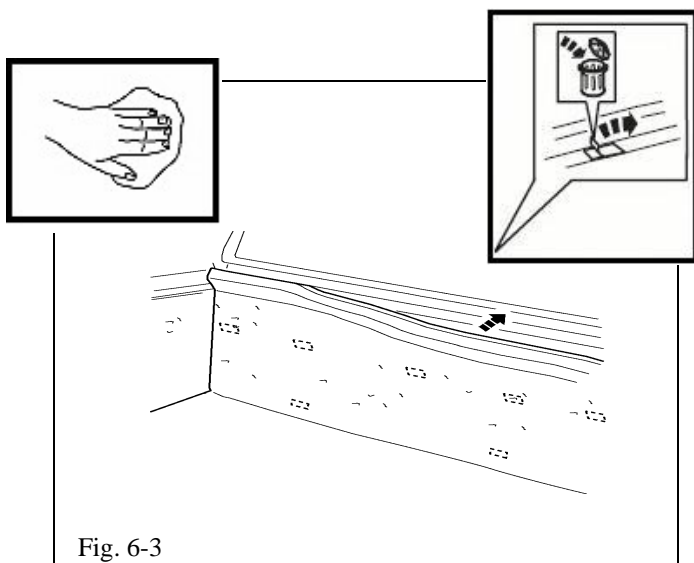

Fig. 6-3
- Fit top edge of BedRug bulkhead to top edge of body panel to determine best location. (Fig 6-3)